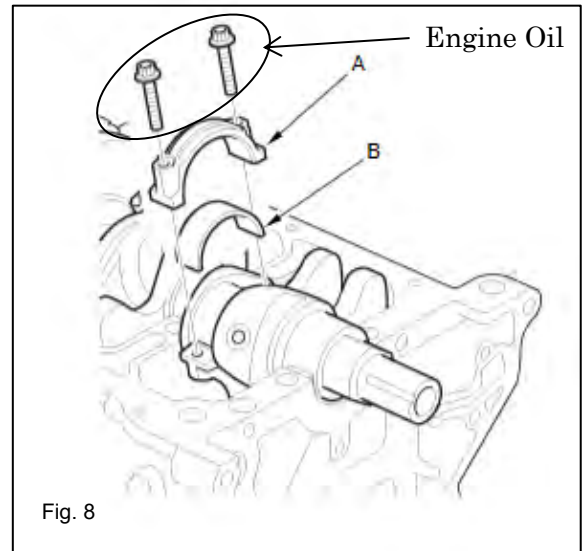

Fig. 8
Apply engine oil to the Bearings. (See the figure 8)
- 4.5 Apply the engine oil to the thread part and seat surface of the connecting rod bolt, then install it to the connecting rod. (See Figure 8)